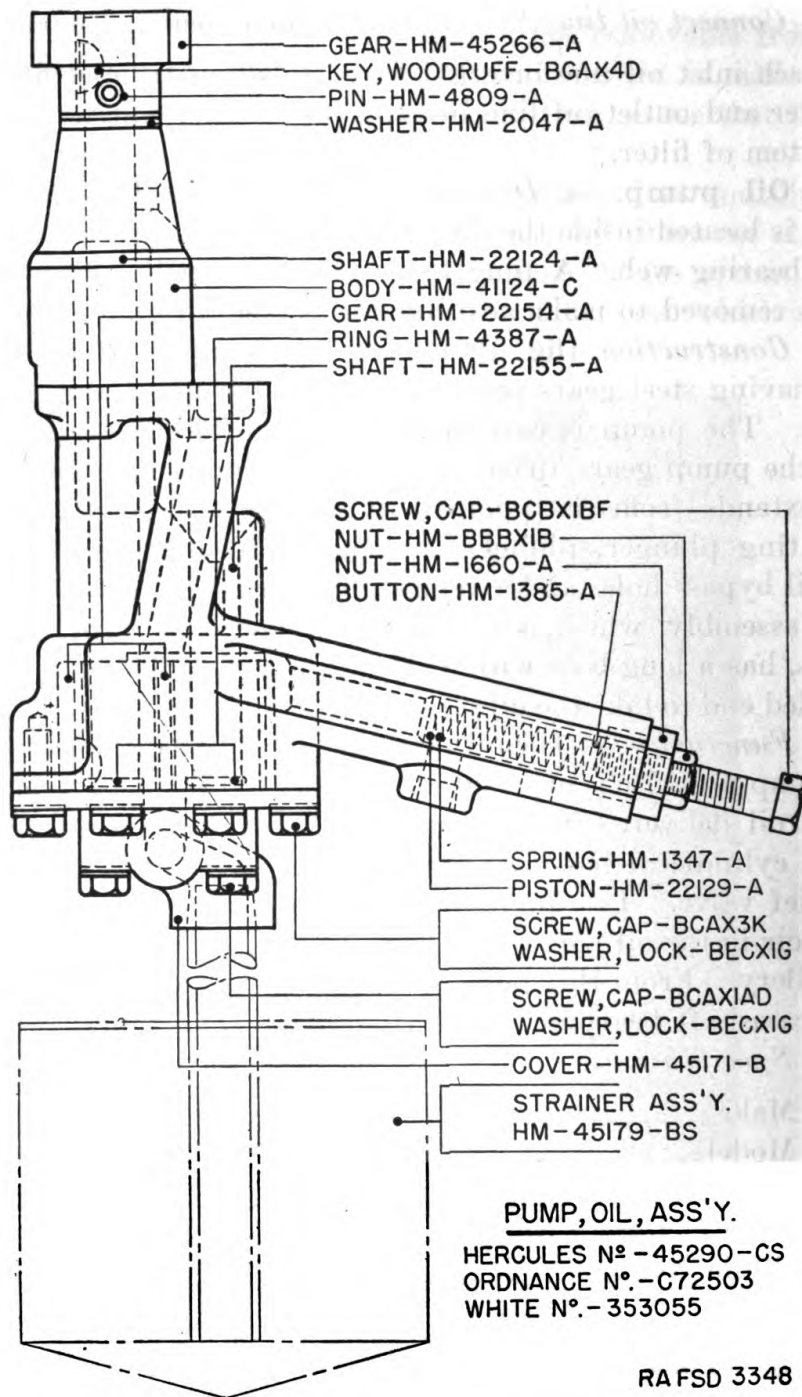

FIGURE 199.—Lubricating oil pumps, plan view.
(1) *Construction* (fig. 199).—The oil pump is of the usual gear type having steel gears pressed onto the hardened and ground steel shafts. The pump is cast in two pieces. The body assembly contains the pump gears, drive shaft, and bearings. A long, cylindrical boss extends from the pump body which contains the oil pressure regulating plunger, plunger spring, and pressure adjusting screw. The oil bypass holes and a venting hole are drilled in the boss. The cover assembly, which is bolted to the body assembly with six cap screws, has a long boss with a cored passage for the oil intake and a threaded end to take the oil screen pipe.